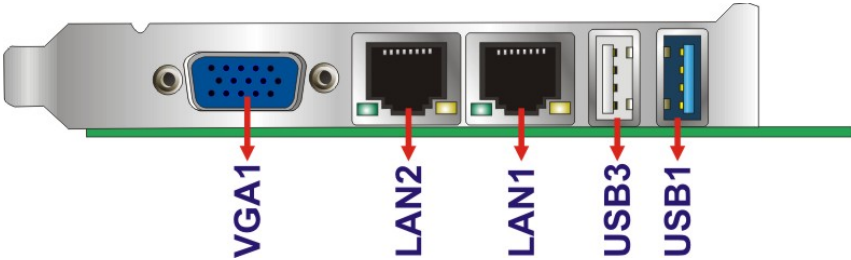

Figure 3-32: External Peripheral Interface Connector
- CN Location: See Figure 3-32
CN Location: See **Figure 3-32**
- CN Location:** See **Figure 3-32**